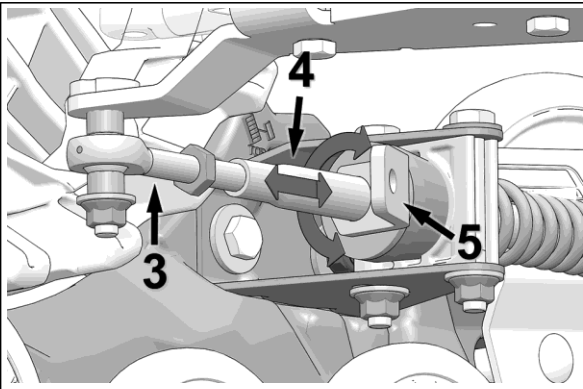

Figure 4
- Adjust length of rod end (3) by rotating the stabilizing arm (4) until a measurement of **270 mm** [10 $\frac{5}{16}$ in.] above ground is obtained. See Figure 4.